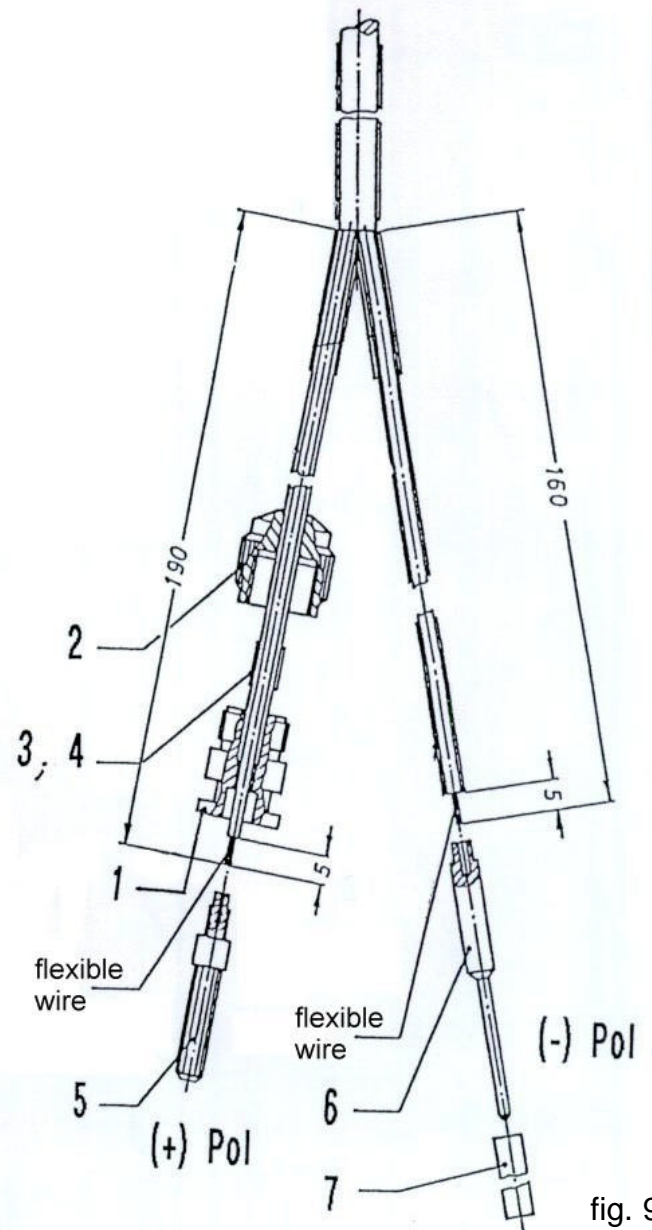

fig. 9
- c) push plug-cap (2), then rubber bushing (3,4) size 2 and 3 over the cable. Then push cable through plug-holder (1) and solder it to the wire.
- c) Solder wire into contact shoe (fig.9/6).